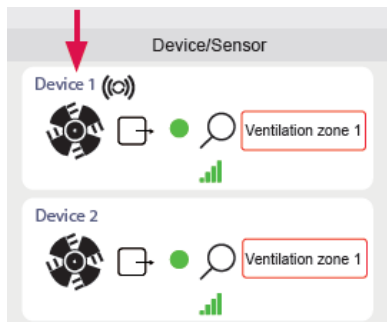

Figure 4 In Device View select the device
In Device View screen click on the Ventilation Zone (item 6 in Figure 4), a drop-down menu will appear, select your preferred zone from this menu.